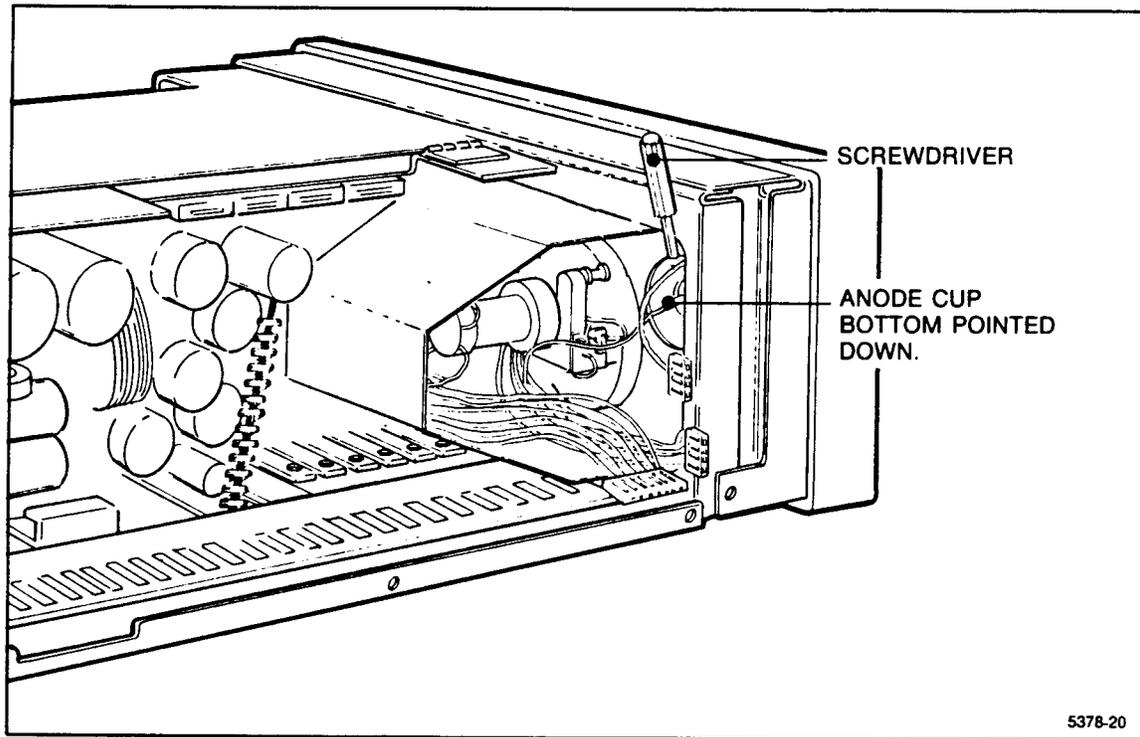

Figure 6-2. Discharging a CRT using a flat-blade screwdriver.
2. Discharge the CRT by simultaneously touching the chassis ground with the plastic-handle screwdriver shank and slipping the screwdriver tip under the CRT anode cup (see Figure 6-2).